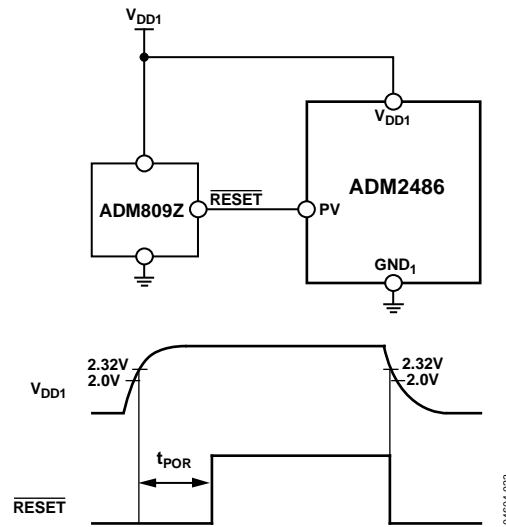

Figure 30. Driving PV with ADM809Z
To avoid chatter on the A and B outputs caused by slow power-up and power-down transients on V_{DD1} ($>100\ \mu\text{s}/\text{V}$), the device features a power_valid (PV) digital input. This pin should be driven low until V_{DD1} exceeds 2.0 V. When V_{DD1} is greater than 2.0 V, this pin should be driven high. Conversely, upon power-down, PV should be driven low before V_{DD1} reaches 2.0 V (see Figure 30).